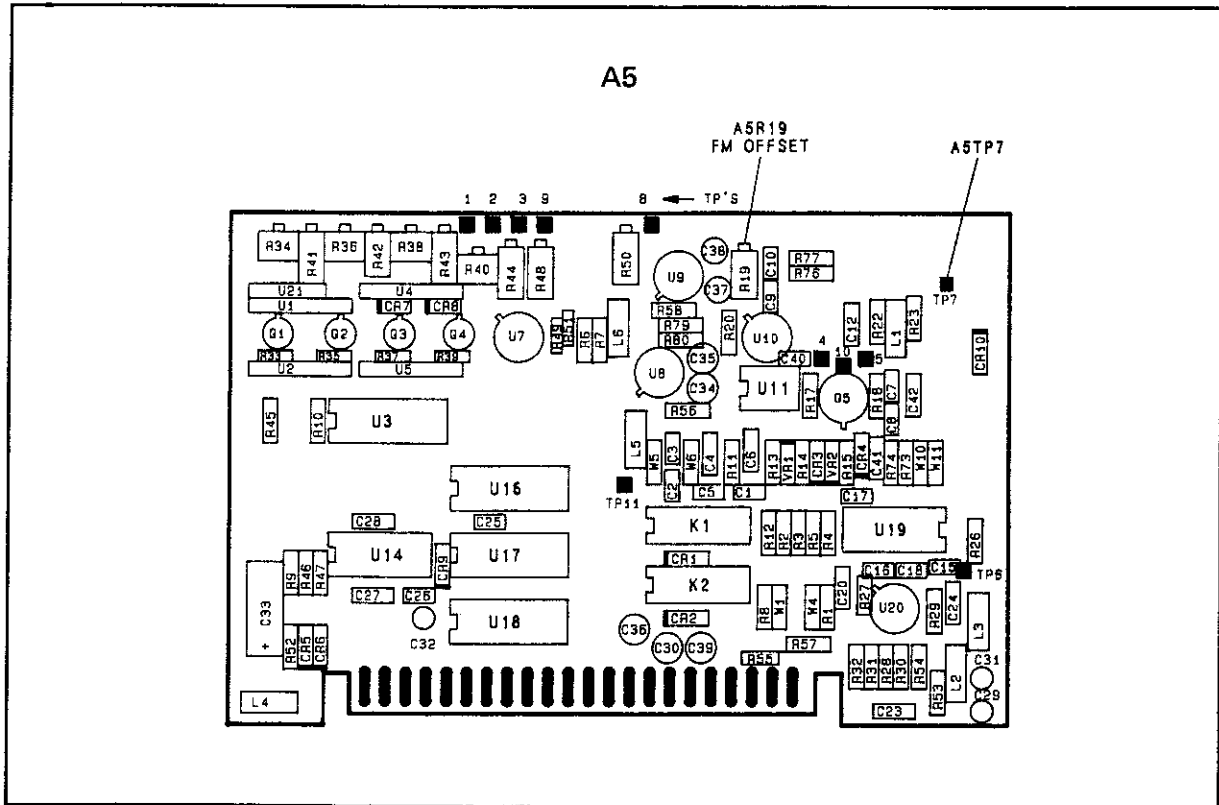

Figure 5-25. FM Driver Adjustment Locations
4. Connect the DVM between the A5 board connector pin 21 and A5TP7 (ground) (see Figure 5-25). Adjust A5R19 "FM OFFSET" for zero $V_{dc} \pm 0.1$ mVdc.